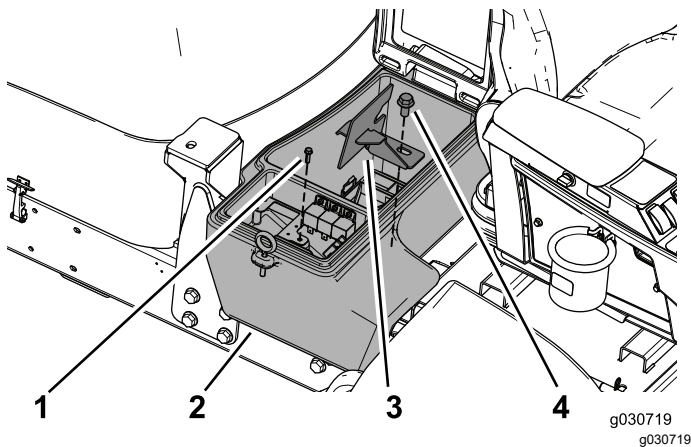

Figure 23
5. Use the screw to secure the reinforcement plate to the machine and use the bolt (1/2 x 1 inch) to secure the battery-compartment clamp and the battery compartment to the machine (Figure 23).